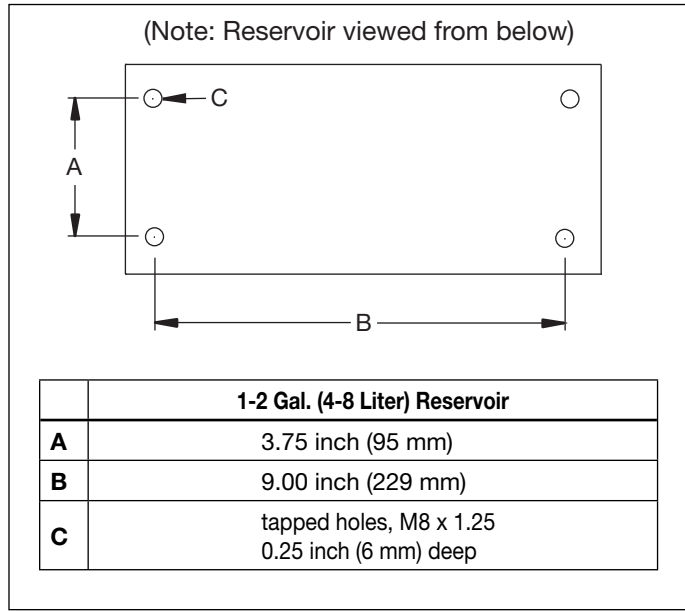

Figure 4, Mounting Dimensions
4.2 Pump Mounting (See Figure 4)
Refer to Figure 4 for mounting dimensions to secure the pump to a fixed surface.